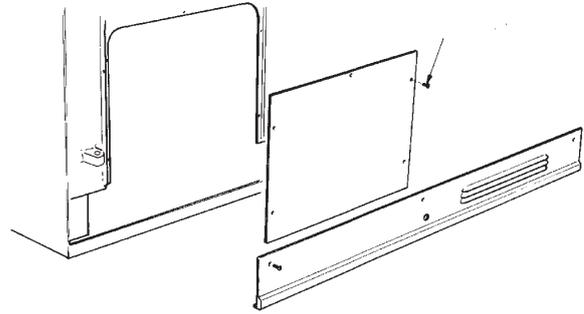

Fig. 20
- SEE FIG. 20
2. Remove (5) inner panel securing screws and remove panel.
3. Remove the (3) plinth securing screws and remove plinth.